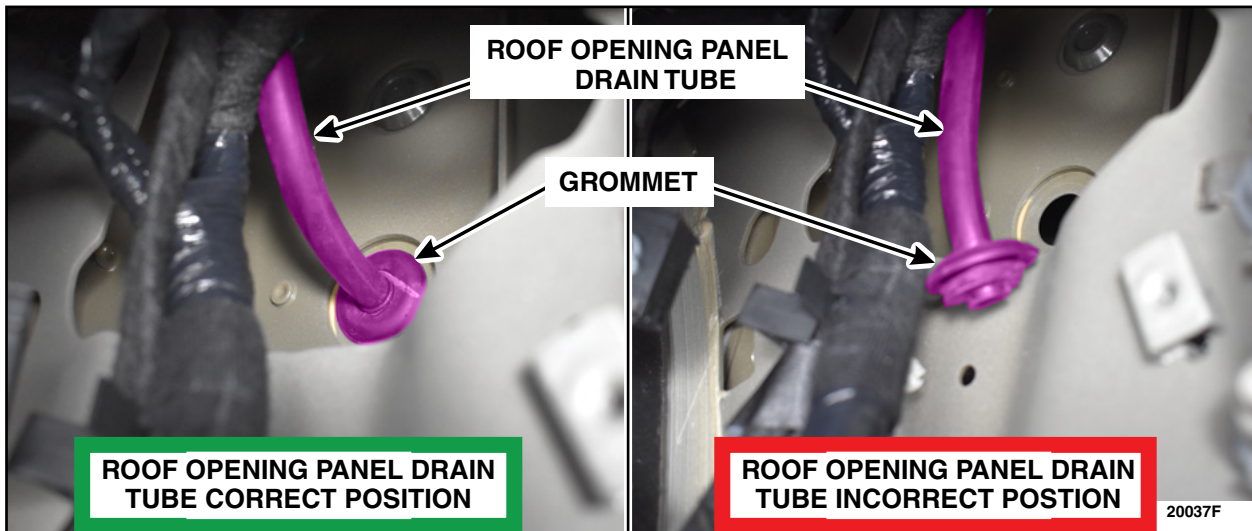

**FIGURE 4**
9. Remove the foam padding located behind the BCM. See Figure 4.